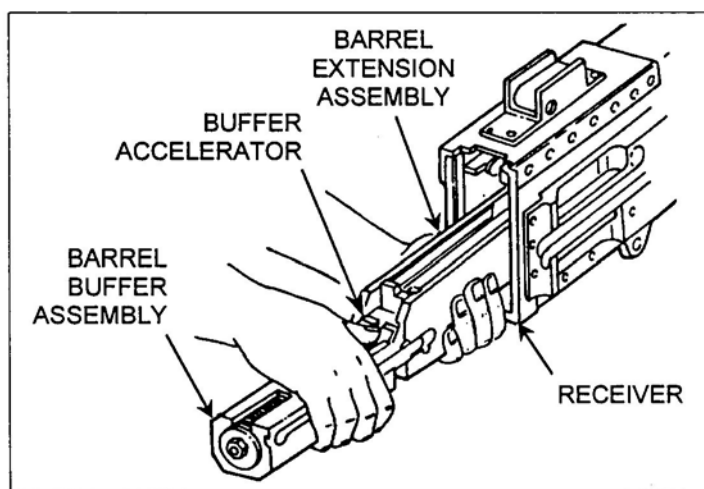

Figure 29. Installation of the barrel buffer and barrel extension assemblies.
- (4) Align breech lock depressors in grooves of barrel extension assembly and push barrel buffer assembly forward.
- (5) Install barrel buffer assembly and barrel extension assembly in receiver (Figure 29).